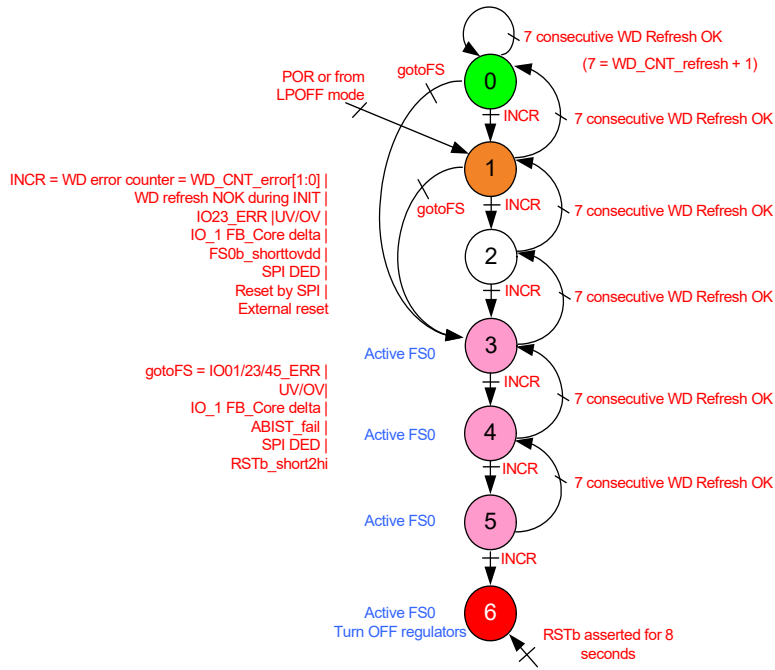

Figure 19. RSTB error counter (RSTB_err_FS = 0)
- RSTB_err_FS = 0 / Intermediate = 3; Final = 6 (Figure 19). When reset error counter reaches 6, the device goes into deep reset and fails.